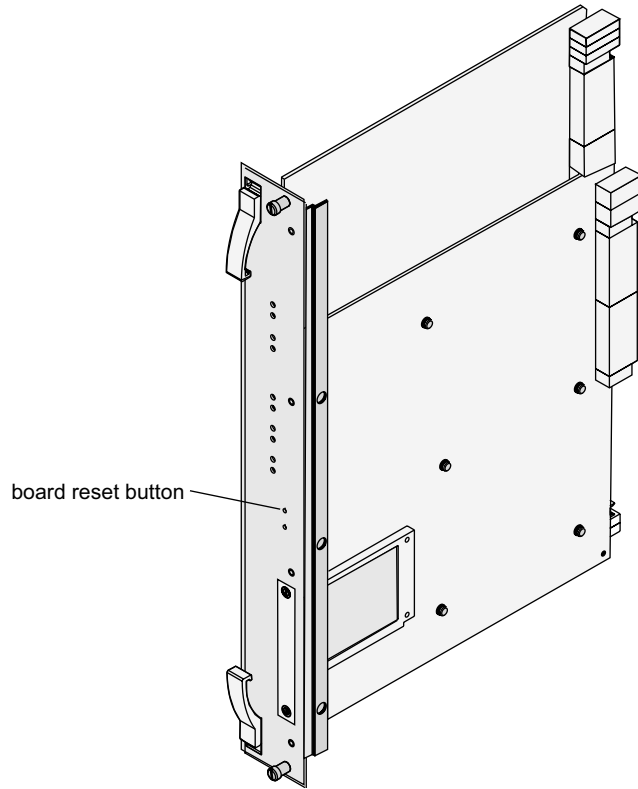

Figure 3-1 SRP module
- Pushing the recessed reset button on the primary SRP module (see Figure 3-1)